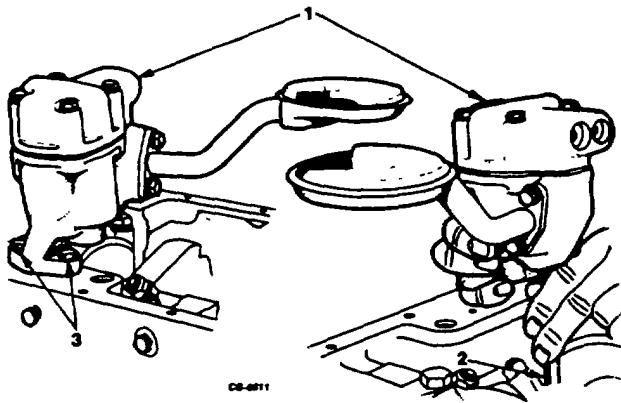

Figure 182. Installing Oil Pump
- 1. Position oil pump in cylinder block and check for correct alignment. Pump shaft should rotate freely without binding (Figure 182).